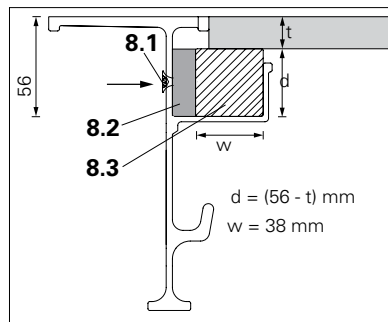

Fig. A6.02
1. Form the slab with the panel ADP (1) as far as possible, see Section "A4 Shuttering" on page 33.
- The filler beam ADF (8) is compatible for plywood thickness (t) ranging from 12 mm to 18 mm by varying the timber insert (8.3) size. (Fig. A6.02)
- Use torx screw 6 x 40 mm (8.1) article no. 024540 to secure the timber insert (8.3) with 12 mm packing (8.2) at every 60 cm c/c. (Fig. A6.02)
- Timber insert (8.3) is not included in the filler beam ADF (8).